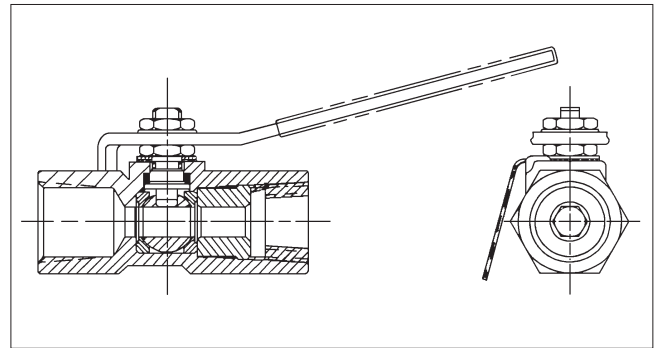

Figure 1.
3. The Series 3000 is an end entry design with an internal insert as shown in (**Figure 1**). The insert contains a hex or slot drive which can be identified by looking into the end of the valve before installation. Although the Series 3000 valve may be disassembled it is not considered repairable. If valves with Monel® or Hastelloy C® trim require repair, contact the factory.